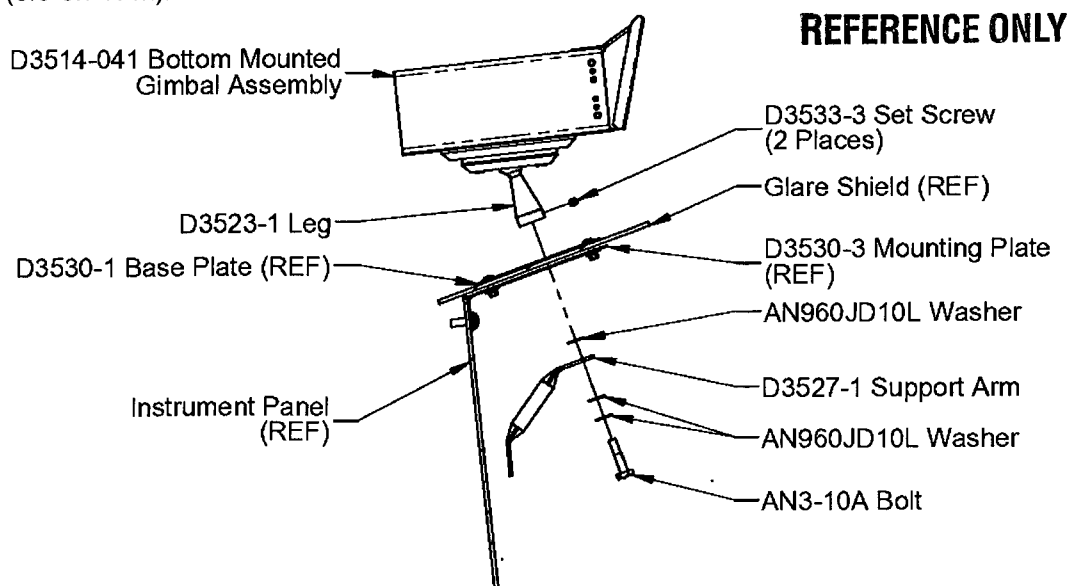

Figure 3.2.4 – Installation of the D3514-041 Bottom Mounted Gimbal Assembly on the Glare Shield
- 3.2.7 Remove the AN3-10A bolt and washers from the D3514-041 Bottom Mounted Gimbal Assembly. Install the D3514-041 Bottom Mounted Gimbal Assembly as shown in **Figure 3.2.4**. Torque the AN3-10A bolt to 15-25 in-lbs (1.7-2.8 N-m). Torque the D3533-3 Set Screws to 5-6 in-lbs (0.6-0.7 N-m).